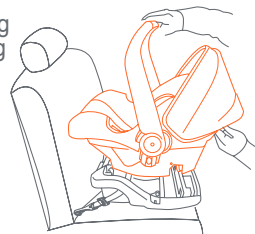

Fig. 46-1
11. If you are using the Base, check that nothing is on top of the base, or anything that will interfere with the proper latching of the Safety Seat to the Base. Place the Safety Seat onto the Base and push down until the Safety Seat latches securely to the Base and you hear a click. Pull upward on the Safety Seat to check that the Safety Seat is securely latched onto the base (Fig. 46-1).